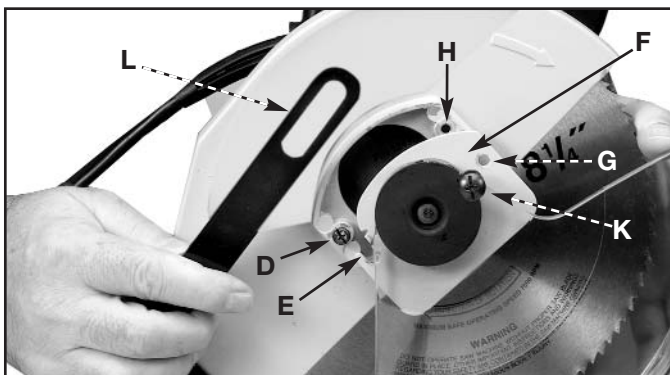

Fig. 6
2. Slide slotted end (E) Fig. 6 of lower guard mounting bracket under screw head (D). Engage slot (L) of the guard lifting lever over screw and spacer (K). Rotate lower guard mounting bracket (F) until hole (G) in bracket lines up with threaded hole (H) in upper guard.